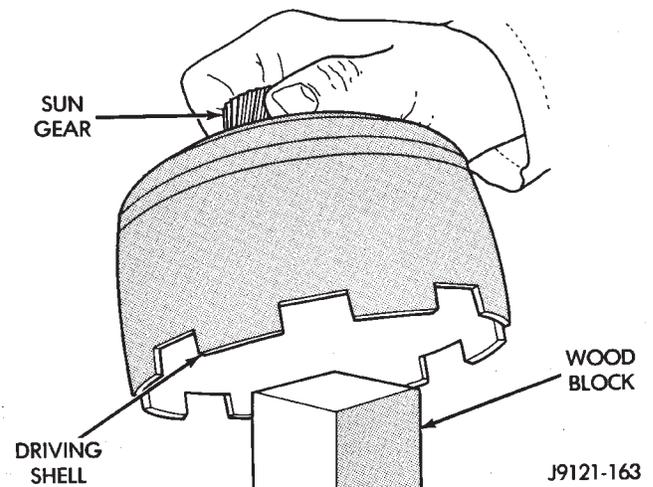

Fig. 198 Supporting Sun Gear On Wood Block
(10) Position wood block on bench and support sun gear on block (Fig. 198). This makes it easier to align and install sun gear lock ring. Keep wood block handy as it will also be used for geartrain end play check.